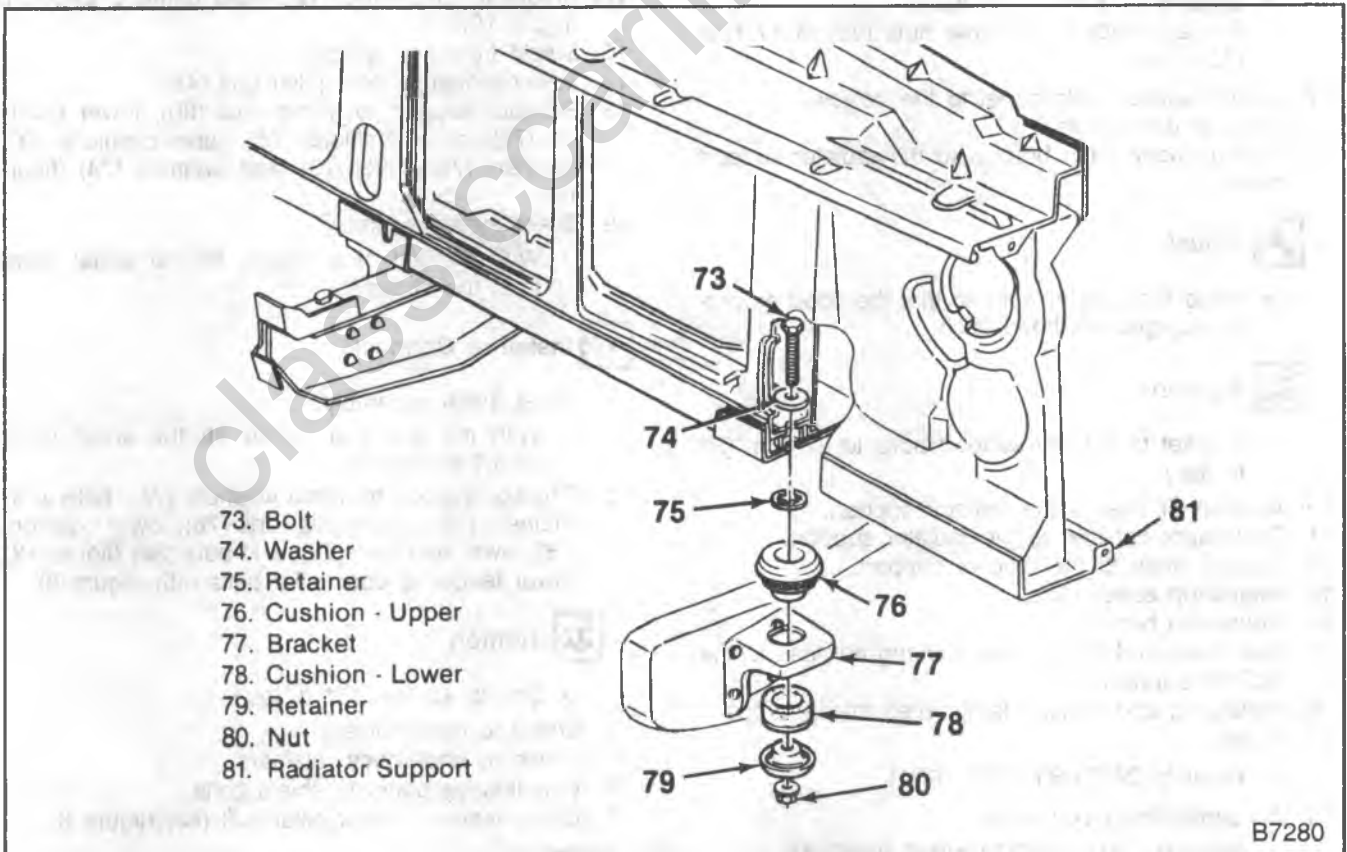

Figure 12—Radiator Support Mounting
Remove or Disconnect (Figure 12)
Install or Connect (Figure 12)
17. Lower fender to door pillar bolt (45).
18. Radiator support to frame nuts (80), lower retainers (79), lower cushions (78), upper cushions (76), retainers (75), bolts (73), and washers (74) (figure 12).
2. Radiator support to frame washers (74), bolts (73), retainers (75), upper cushions (76), lower cushions (78), lower retainers (79), and nuts (80) (figure 12).